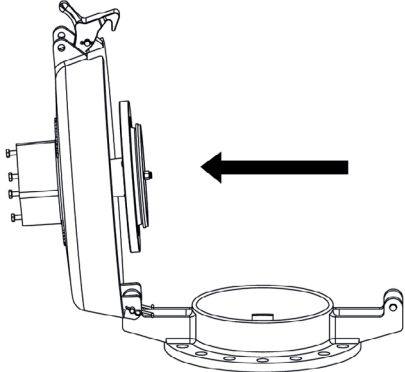
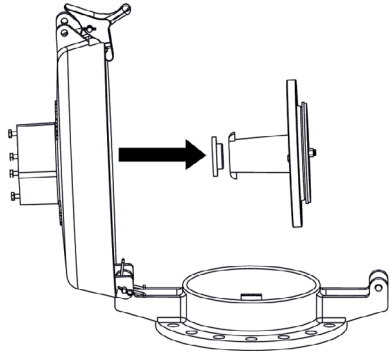

Figure 10. Removal of Center Assembly (Step 1)
Figure 11. Removal of Center Assembly (Step 2)
4. To remove the center assembly, press the center assembly inward until the center assembly bottoms out against the inside of the lid, then turn the center assembly one quarter rotation to the right or left to the next set of guide slots (see Figure 10). Remove the center assembly as shown in Figure 11. Be careful not to drop the pivot pad that rests on top of the center assembly and provides guidance for the spring capsule assembly stem.